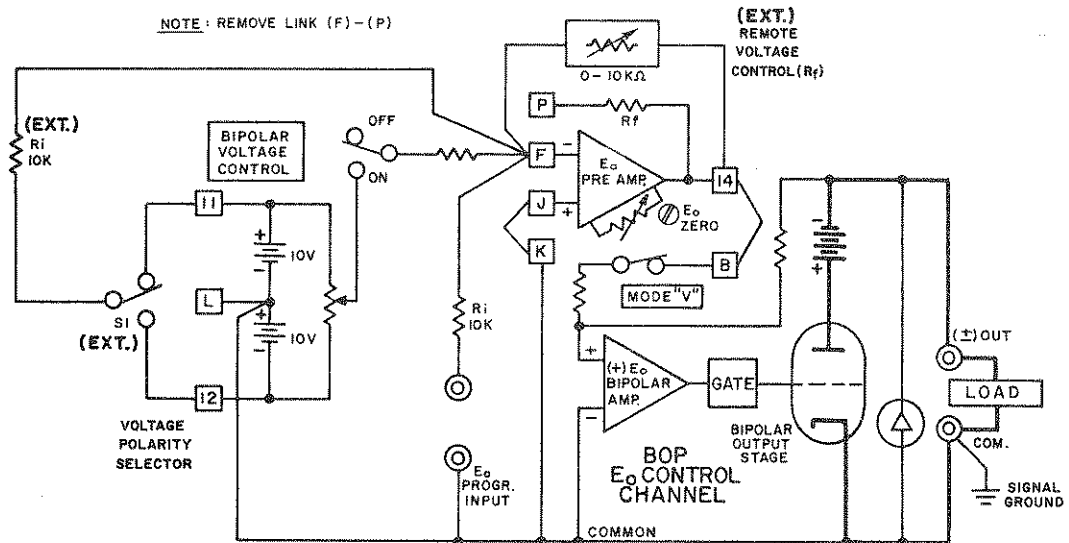

FIG. 3-5 REMOTE D-C OUTPUT VOLTAGE CONTROL BY MEANS OF A TWO-TERMINAL RESISTANCE (DECADE).
- 3-13 Two-terminal resistance control of the d-c output voltage (for example, by means of a Decade Box) can be exercised as shown in FIG. 3-5.